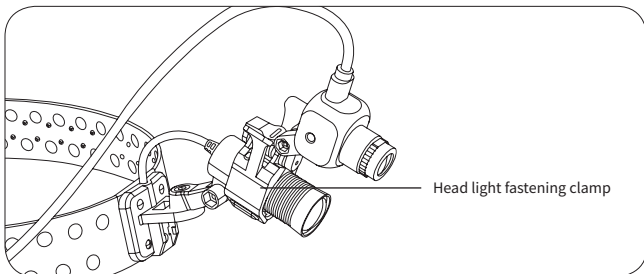

Fig. 4. Connecting the HD camera with the head light
- (1) Take out the (optionally-provided) head light, and select a suitable position on the head light to fix the camera.
- (2) Fix the HD camera with the head light using the fastening clamp as shown in Fig. 4.